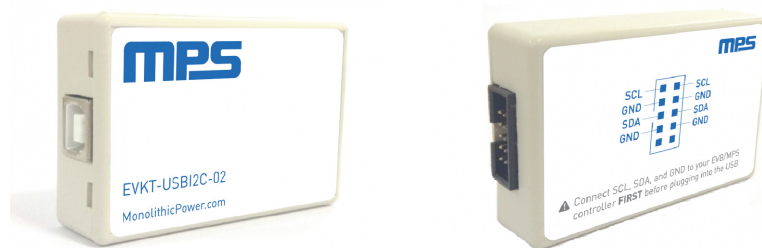

Figure 1: USB-to-I²C Communication Kit
1. To use the evaluation platform, the following is required: a computer with at least one USB port, a USB cable, and a USB-to-I²C communication kit (EVKT-USBI2C-02) (see Figure 1).